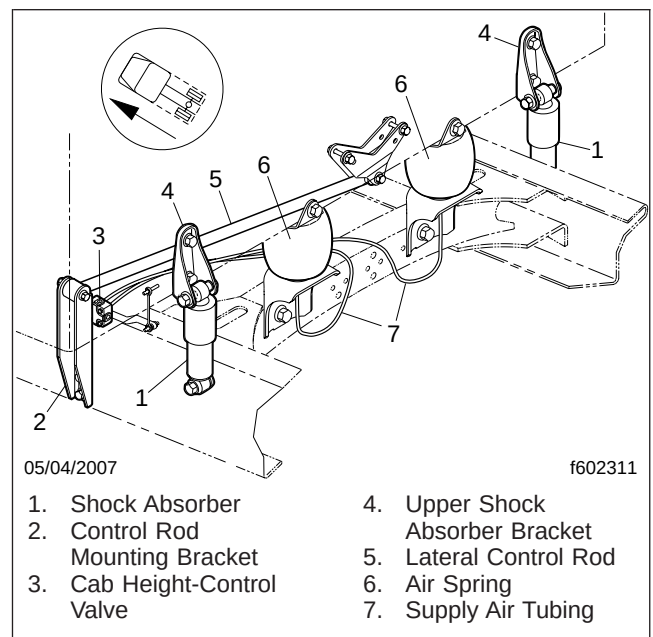

Fig. 2, Cab Air Suspension
6. Disconnect the supply air tubing from the bottom of the air spring; see Fig. 2. If the new air spring will not be installed immediately, cover the open end of the air tubing to prevent dirt or other foreign material from entering.